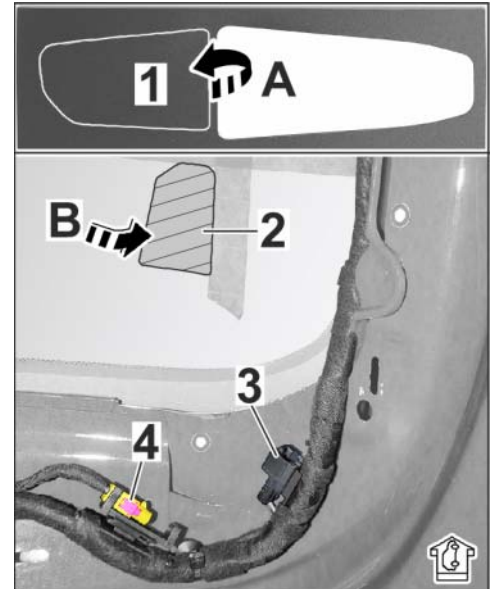

Figure 16 (example 9YA)
3.2.2 Peel backing sheet off 3M privacy film (rear camera). ⇒ *Figure 16 (example 9YA)-A-*
3.2.3 Position and affix 3M privacy film on marked bonding surface on inner rear window. ⇒ *Figure 16 (example 9YA)-B-*